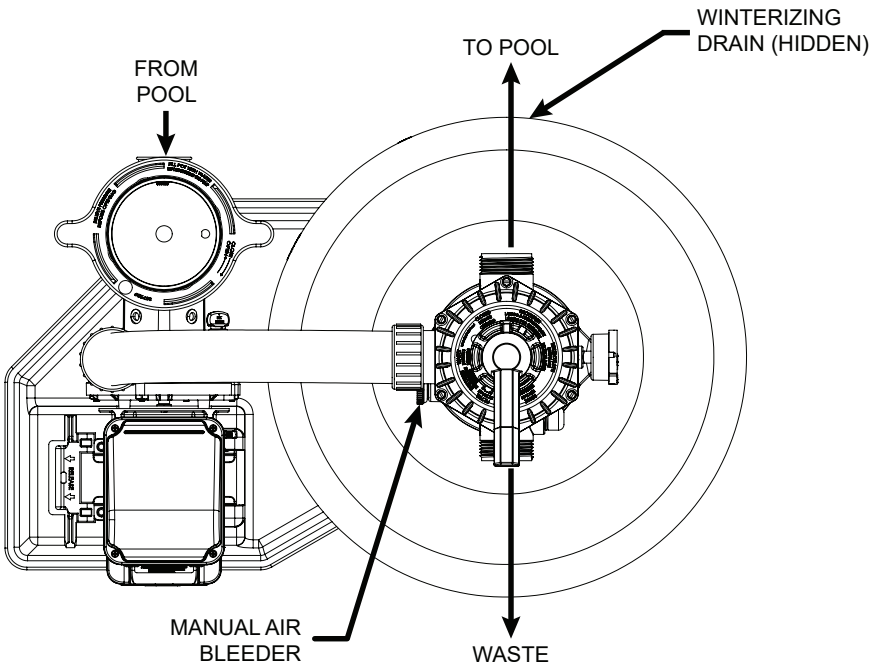

Figure 1.
2. Provide space and lighting for routine maintenance access. Locate the system close to the pool. See Figure 1 for typical installation.
**Note:** Install electrical controls (e.g., on/off switches, timers, control systems, etc.) at least five (5) feet from the filter. This will allow you enough room to stand clear of the filter during system start up.
- C. Place the system support base on the ground close to the final location of the unit. See Figure 1 on the next page.
6. Be sure top of filter is free of any sand or debris and valve o-ring is in place on valve body. Install valve so that the port locations are in the desired final position. See Figure 1 (see page 4).